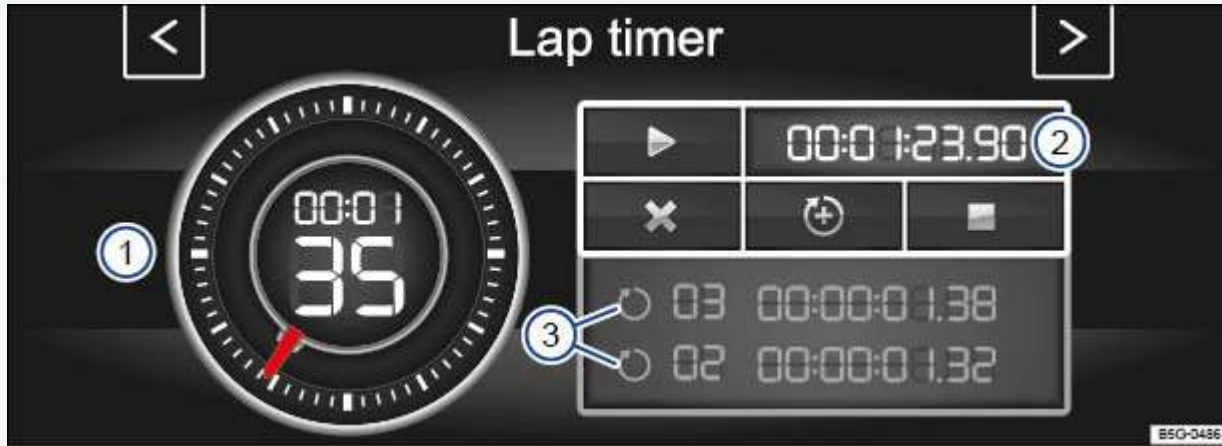

Fig. 189 In the Infotainment system: Performance Monitor lap timer/stopwatch.
Key to ⇒ Fig. 189 and ⇒ Fig. 190 :
The stopwatch has two different measuring functions. The stopwatch in the outer ring of the display (red needle) ⇒ Fig. 189 can measure up to 60 seconds. The digital display in the center of the stopwatch shows the elapsed hours, minutes, and seconds. The seconds appear as large numbers.
The digital display on the right side ⇒ Fig. 189 shows the current lap split time in 1/100 second intervals. If the lap timer is not being used to track split times, both digital displays show the same time.
Function	Action ⇒ Fig. 189 and ⇒ Fig. 190
Show lap split times in the stopwatch display:	Tap button B ⑨. The split time is shown in the digital display in the center of the stopwatch ⇒ Fig. 189 ① only.